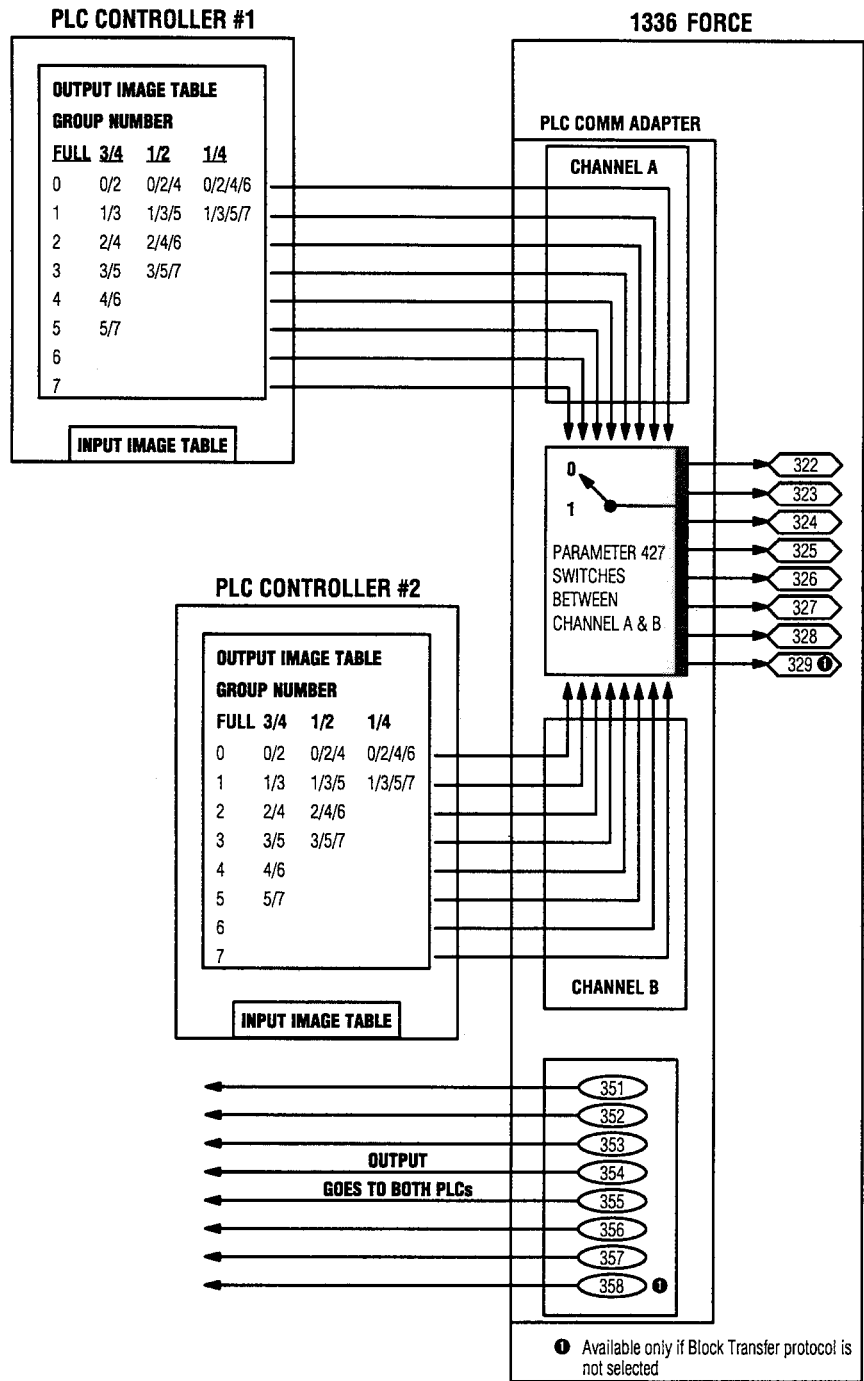

Figure 4-1 — Redundant RIO Communications
The RIO redundant mode is a special mode that allows the drive to be connected to the RIO channel of (2) separate PLC Controllers. A parameter in the drive specifies which PLC Controller has control of the drive. Output image table data from the non-controlling PLC is discarded. **Figure 4-1** shows a typical redundant mode configuration. The redundant RIO mode is only available when the following (3) conditions are met.